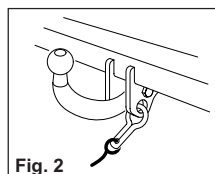

Fig. 2
- b) Attach the clip directly to the designated point (Fig. 2). This alternative must be specifically permitted by the trailer manufacturer since the clip may not be sufficiently strong for use in this way.